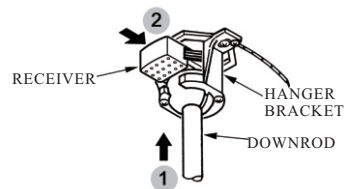

FIG.5
2. Carefully lift the fan and seat the down rod assembly on the hanger bracket. Be sure the groove in the ball is lined up with tab on the hanger bracket. Do not pinch wires between the ball and down rod assembly and hanger bracket (see Fig.5)